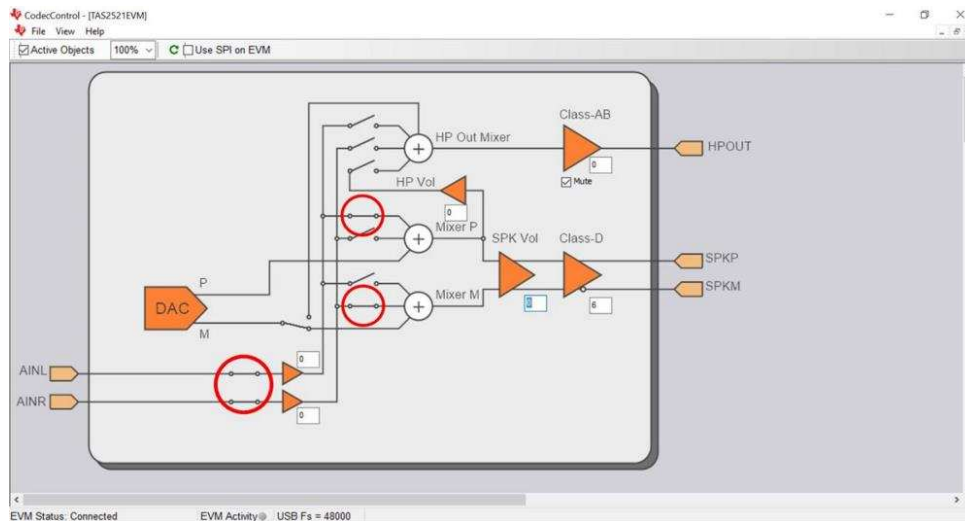

图 14. Settings for Analog Inputs
- a. On the GUI, close the switches circled in red in 图 14 by clicking on them.